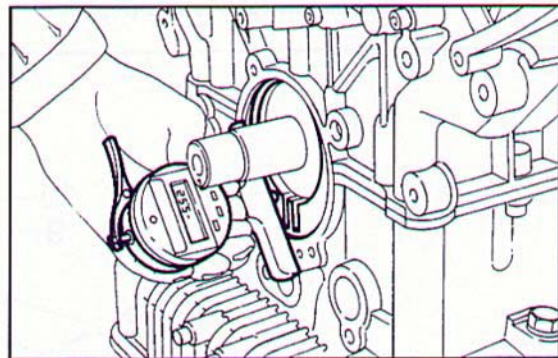

Fig. 243 ▲
- repeat this reading on the engine block, measuring depth of the pump cover with respect to the oil control unit support plane (Figs. 243 and 244);